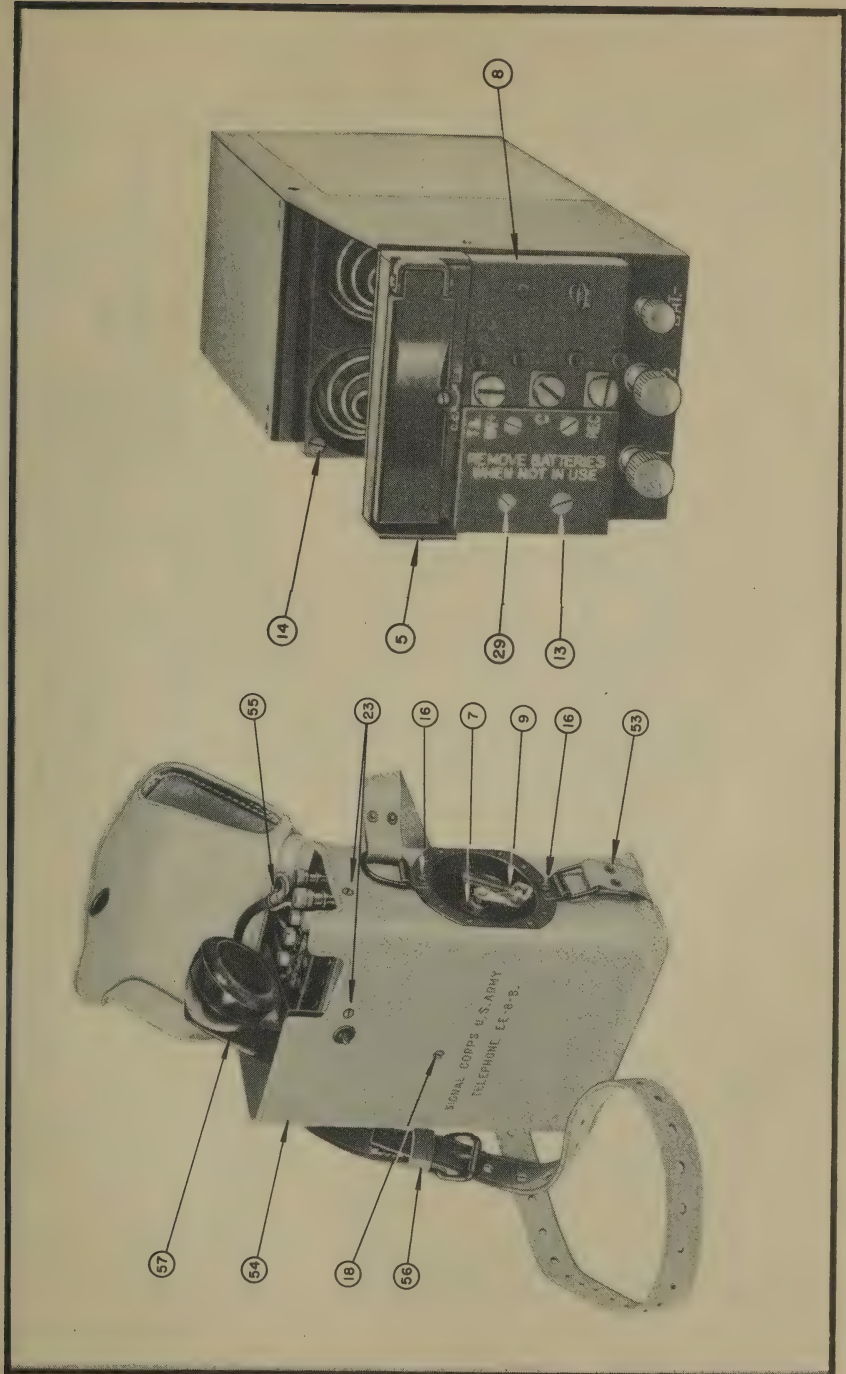

FIGURE 3 — Telephone EE-8-B in Leather Case
4. **Position of Parts in Case CS-112.**—Illustration 4 shows the location within Case CS-112 of the parts contained in Maintenance Equipment ME-22. The reference numbers correspond to the reference numbers in Section II and figures 3 and 5. Keep the original location of parts and check the quantity on hand periodically to make certain that at least the minimum quantity is available. Keep Maintenance Equipment ME-22 completely stocked by requisitioning individual parts contained in it. It should never be necessary to requisition a complete Maintenance Equipment ME-22 after it is once issued. Requisition parts through the established channels using stock number, description and quantity needed to bring stock up to maximum quantities. State on the requisition that material is needed to replenish Maintenance Equipment ME-22. If conditions warrant, parts should be replaced after each service trip.
6. Replacement of Parts.—*a. General.*—When parts are replaced they will be installed as shown in figures 3, 5a & 5b. Those parts of replaced units which can be salvaged will be retained by the repairman for his own use, or, if the repairman has no need for them, they will be disposed of thru the established channels for salvage. The repairman will find it particularly advantageous to retain parts of replaced generators and handsets as these units vary in design when produced by different manufacturers and possession of such parts may enable the repairman to make emergency repairs which would be impossible otherwise. Spare compartments will be found in Case CS-112 which may be used for keeping salvaged parts.
To replace parts within the telephones, take the body assembly out of the leather case by removing two screws (16), three screws (18), and two screws (23), and lifting the body assembly out of the leather case. All of the aforementioned screws appear on figure 3 except two screws (18) which will be found on the back of the leather case.
b. Crank GC-9—(Item 9).—To remove crank, pull on handle and turn counter-clockwise (to the left) off shaft. To replace with new crank, pry out disc (7) on shaft behind side wall. Be sure that lock-washer (40) on shaft behind disc does not fall inside chassis. Force hub on arm of crank through hole in disc. Screw crank clockwise (to the right) on shaft. Poke disc through hole in side wall. It is not necessary to remove the telephone from the leather case to replace crank.
g. Jack Assembly—(Item 8).—To change jack assembly, remove eye screw (33) and screw (13) opposite eye screw (See figure 3.) Unsolder the three wires on the bottom of jack assembly. Solder wires back on new jack assembly in the following color code, (See wiring diagrams, figures 7a, 7b or 7c.)